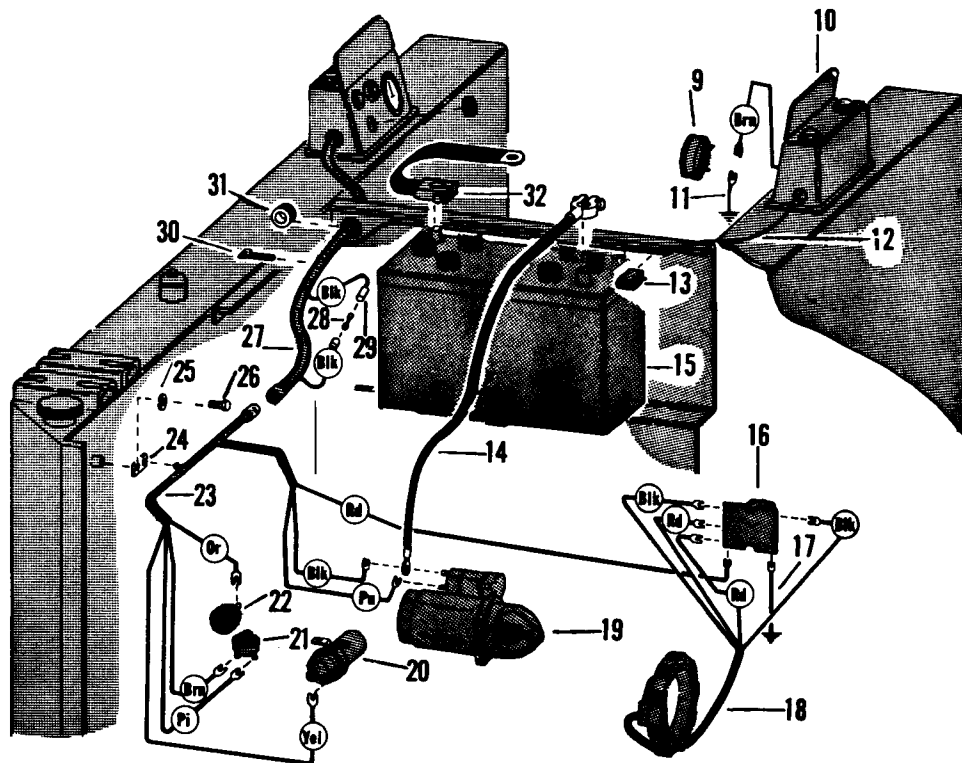

Fig. 43 Electrical Circuitry (Rectifier - Regulator Module, One Unit) (M-600)
The metallic portions of the regulator are isolated from the mounting, and so the same regulator can be used in either a positive or negative ground system. WISCONSIN and KOHLER MOTORS, however, have adapted negative grounds as standard for all 12 volt generating circuits. All alternator-regulator wiring furnished by WISCONSIN and KOHLER will be for negative ground, and wired in accordance with the diagram in figure 43. The white wire attached to the "BATNEG" terminal on the rectifier-regulator is grounded to the engine at a lug under one of the starter mounting bolts. This lug is also used for attaching the ground cable from the negative post of the battery to the engine.
- (1) Do not connect solenoid power lead to rectifier/regulator "BAT-NEG" terminal.
- (2) Make power lead connection at starter switch (as close to battery as possible) Fig. 43).
- (3) Add by-pass condenser at solenoid terminal. Use a 1 MFD condenser similar to that used for auto radio suppression.